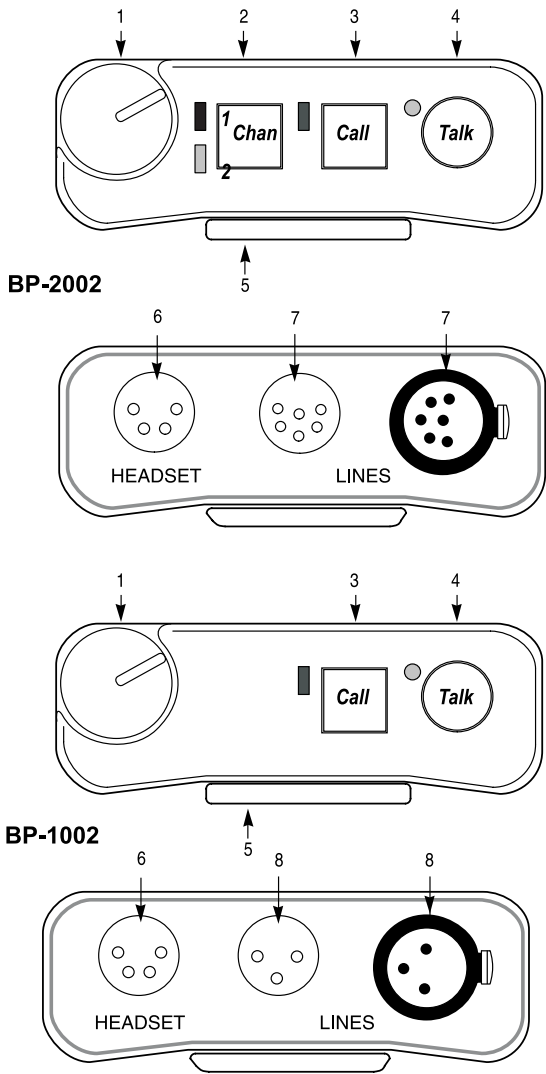

Figure 1. BP-2002 & BP-1002 Connections and Controls
**NOTE:** The numbers refer to the callouts in Figure 1.
Type: XLR-4M (callout 6 in Figure 1)
Type: One XLR-3M and XLR-3F pair (callout 8 in Figure 1)
Type: One XLR-6M and XLR-6F pair (callout 7 in Figure 1)